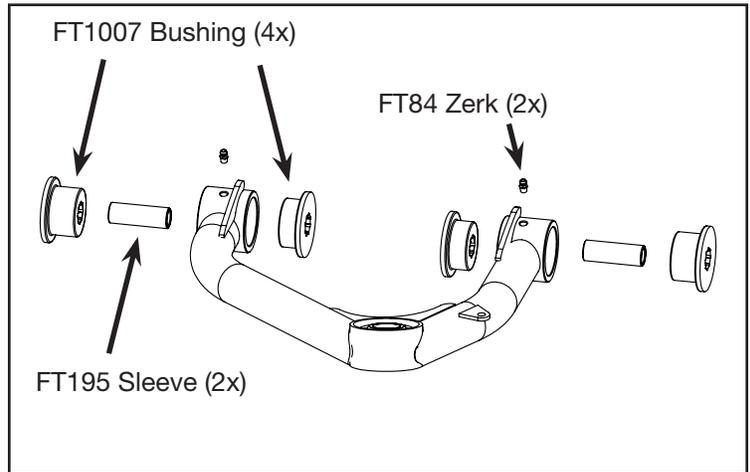

FIGURE 3 - STEP 5
5. Install these components in the control arm barrels like shown in **FIGURE 3**